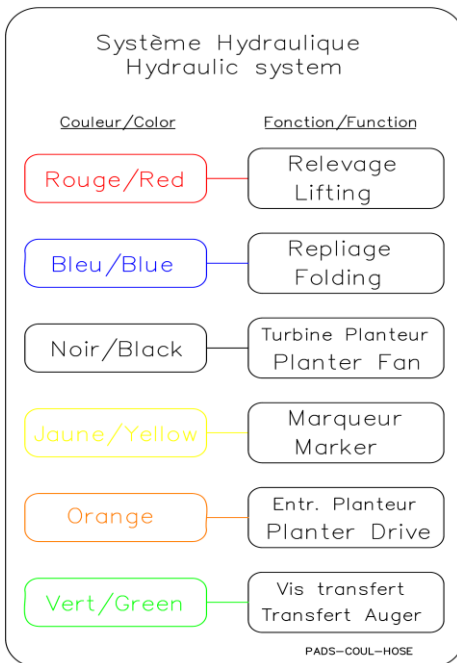

Figure 3
- Connect all hydraulic hoses to the tractor. Each hose is identified by a color code to determine its function [Figure 3].